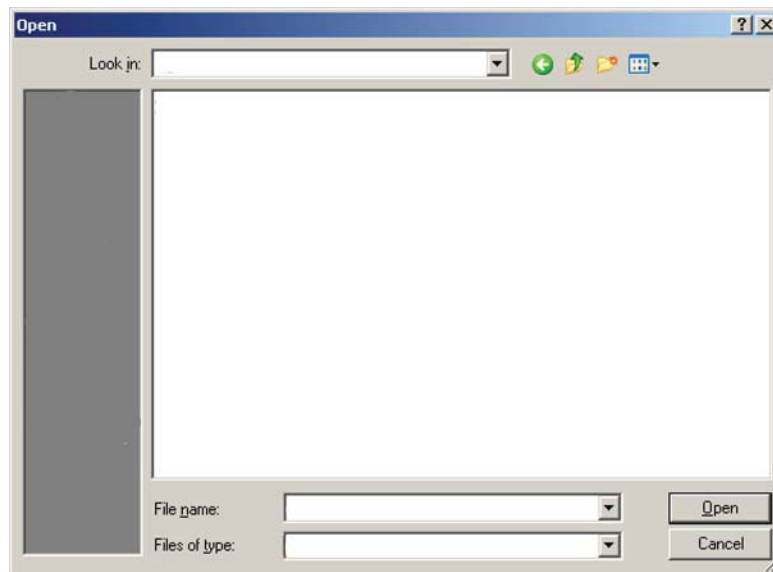

Figure 7 - File Selection
- 1.11.3. In the browser, select the new ACU corresponding program update. This is the program previously saved in the portable computer. See Figure 7.